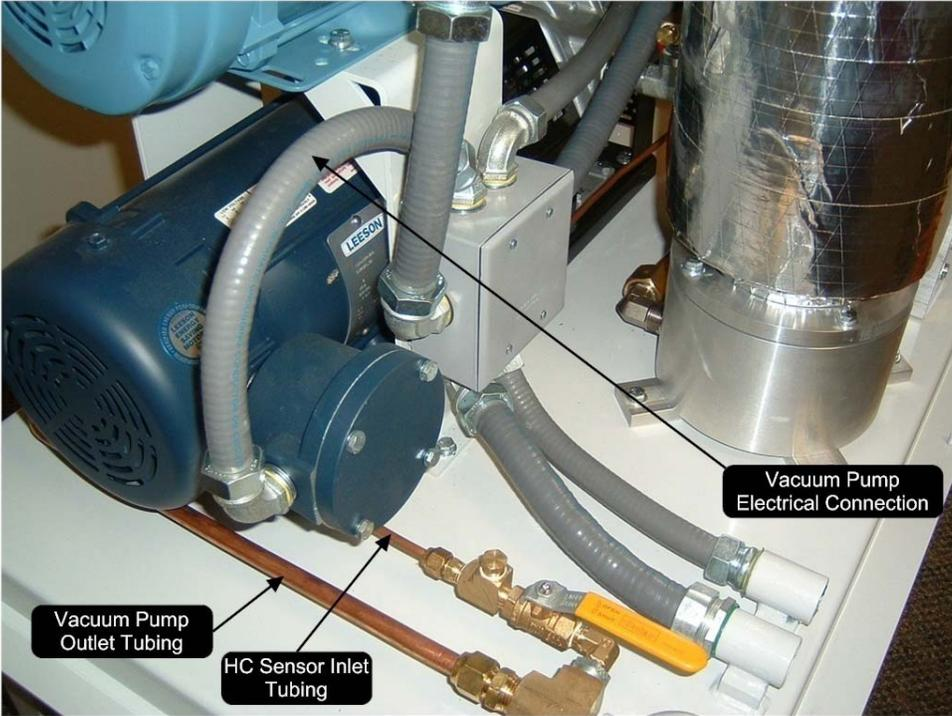
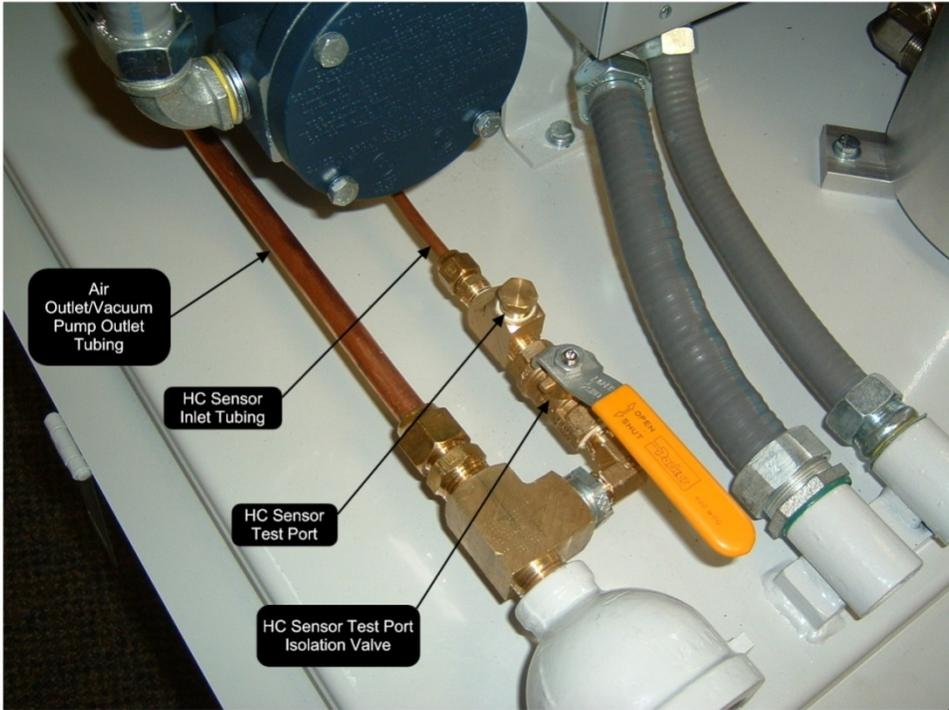

Figure 26: Vacuum pump electrical connection / vacuum pump outlet tubing / HC sensor inlet tubing
Figure 27: Air outlet / vacuum pump outlet / HC sensor inlet tubing
- See Figure 26: Page 15-67 and Figure 27: Page 15-67.
8. Remove (4) $\frac{1}{4}$ " x 1- $\frac{1}{2}$ " mounting bolts from the vacuum pump motor assembly base plate.
- Keep the (4) bolts for reuse or replace with new.